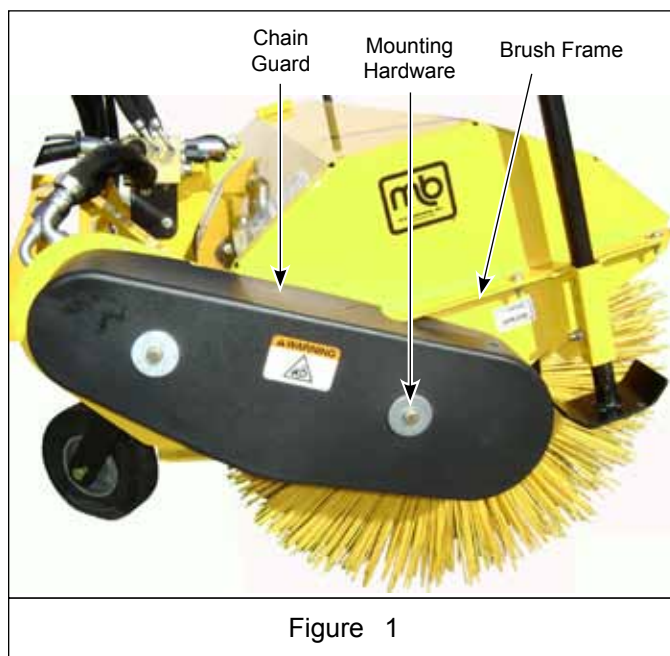

Figure 1
2. Remove (2) 3/8-16 x 1" hex head capscrews, lock washers, flat washers and chain guard from the brush frame. See Figure 1.
7. Install chain guard on brush frame and secure with (2) 3/8-16 x 1" hex head capscrews, lock washers and flat washers. See Figure 1.